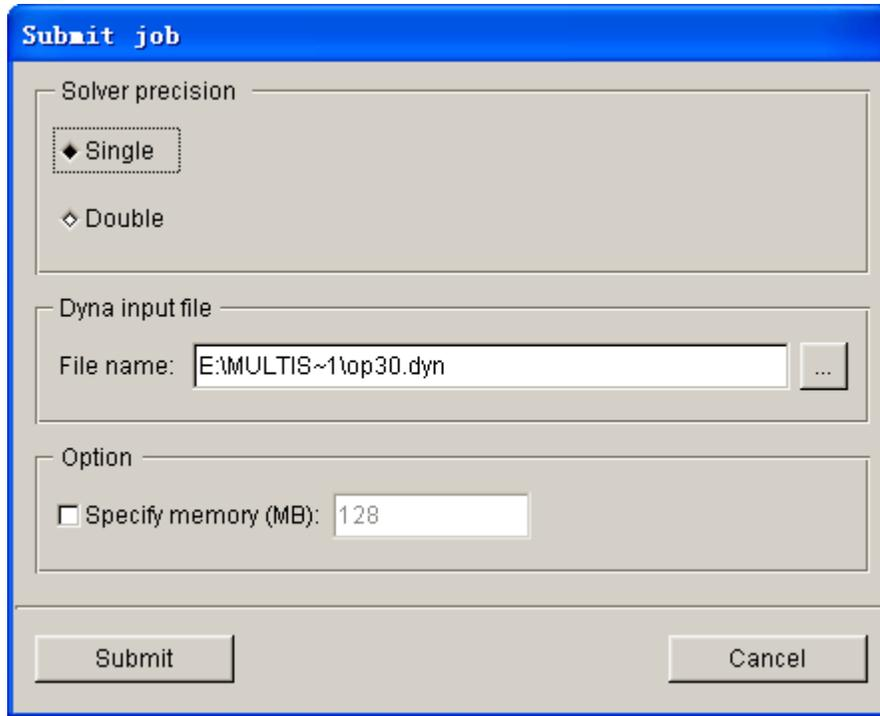

Figure 8.2.10 Submit Job dialog box
**Specify memory (MB):** Specify memory allocation for current job. The default value is 128MB. The user may specify different memory allocation according to the size of model.
**JOB SUBMITTER** — This function allows the user to submit and run the stamping simulation model. The Submit Job dialog box is illustrated in Figure 8.2.10.